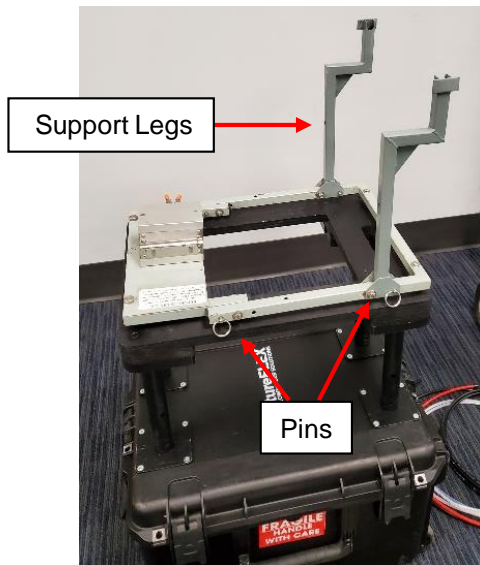

Figure 11
8.1 Raise Payoff Stand fiber reel support legs to vertical position and insert quick-release pins (provided on Payoff Stand) to lock legs in place. **See Fig. 11.**